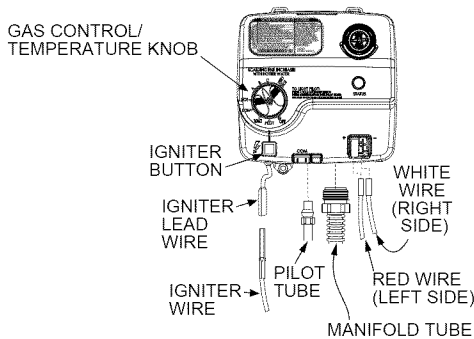
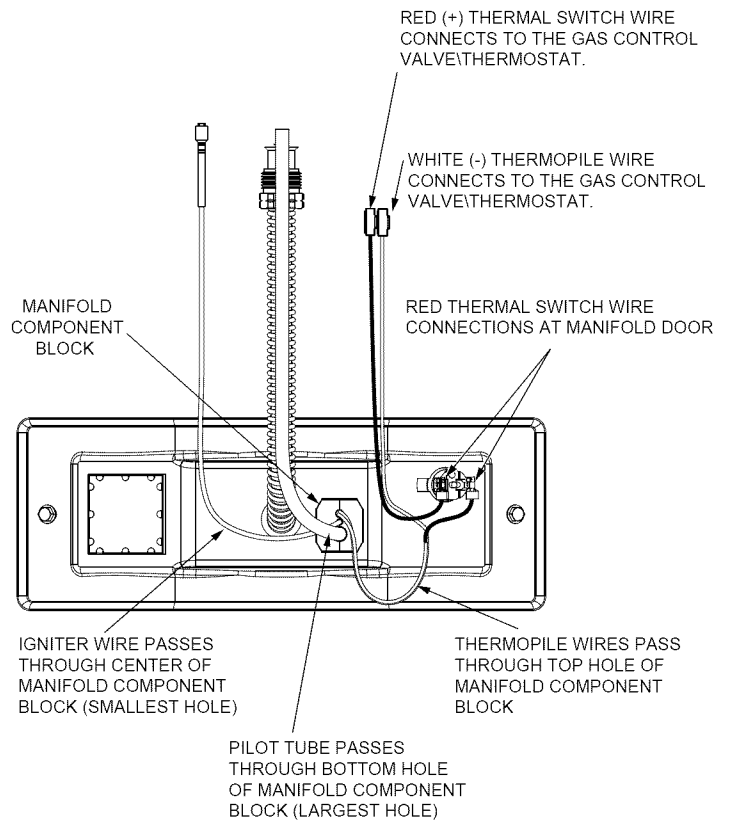

FIGURE 28.
FIGURE 33.
1. Turn the gas control/temperature knob to the "OFF" position (Figure 28).
5. Disconnect the following from the gas control valve/thermostat: pilot tube (7/16" wrench), igniter wire (from the igniter lead wire), and manifold tube (3/4" wrench). See Figure 28.
6. Disconnect the white and red wires from the gas control valve/thermostat (Figure 28). Use needle nose pliers to grip the connector(s). **IMPORTANT:** Grip the connector carefully to prevent damage. Do not grip or pull the wires themselves.
9. Reinstall the manifold component block in the manifold door. Ensure that the pilot tube and wires are positioned as shown in Figure 33.
6. Reconnect the manifold tube (3/4" wrench) and pilot tube (7/16" wrench) to the gas control valve/thermostat (Figure 28). Do not cross-thread or apply any thread sealant to the fittings.
7. Connect the white and red wires to the gas control valve/ thermostat as shown in Figure 28. Also, ensure that the red thermal switch wires are connected to the thermal switch on the manifold door (Figure 33).
8. Reconnect the igniter wire (Figure 28).
4. Disconnect the igniter wire from the igniter lead wire. Use needle nose pliers to disconnect the red (+) and white (-) thermopile wires. Disconnect the pilot tube (7/16" wrench) and manifold tube (3/4" wrench) at the gas control valve/thermostat (Figure 28).